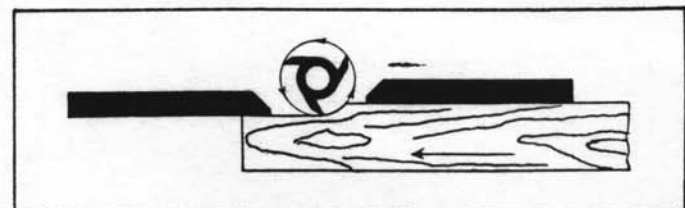

Fig. 11
2. When the shaping operation removes the entire edge of the work, e.g., in jointing or making a full bead, the shaped edge will not be supported by the rear fence when both fences are in line, as shown in Fig. 10. In this case, the work should be advanced to the position shown in Fig. 11, and stopped.
3. The rear fence should then be advanced to contact the work, as shown in Fig. 11. The rear fence will then be in line with the cutting circle.